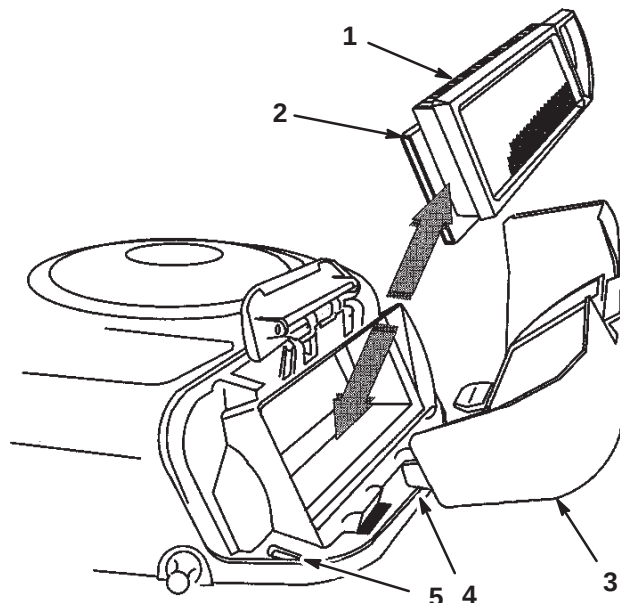

Figure 20
- Carefully slide the paper element and foam element from the blower housing (Fig. 20).
2. Align the tabs on the air cleaner cover with the slots of the blower housing (Fig. 20). Hook the handle onto the cover and press down on the handle to lock the cover in place.